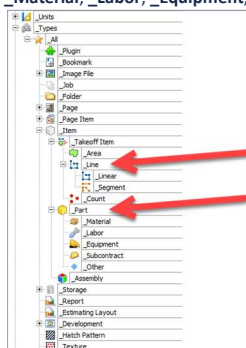

Figure 9
9. Now click on the +'s next to **_Line** and **_Part** so that your screen resembles Figure 9. Here you can see the **_Linear** and **_Segment** configurations for the **_Line** takeoff item. The **_Linear** and **_Segment** items are inheriting the parent's **Item** properties. The same applies to the **_Material**, **_Labor**, **_Equipment**, **_Subcontract**, and **_Other** configurations for the **_Part** item. Right-click on the **_Line** type in Figure 9.